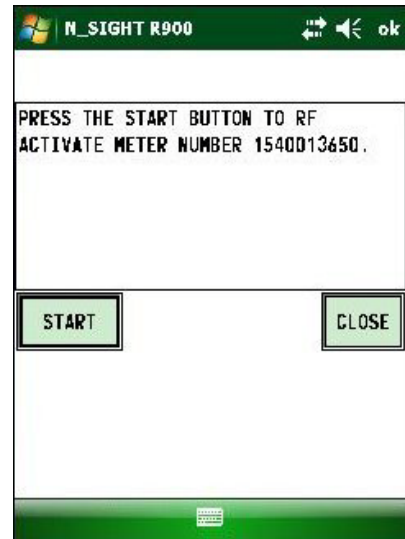

Figure 7.13 RF-Activate Meter Screen
- 7 Click **START** to initiate RF-activated data logging. See Figure 7.13.